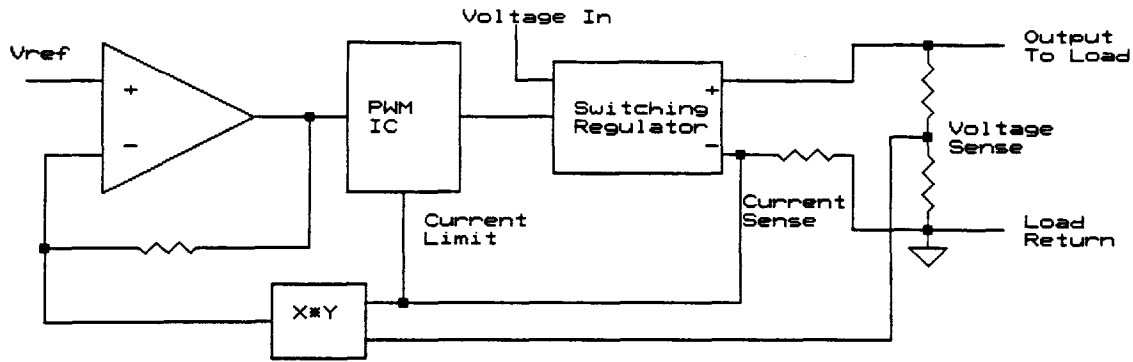

Figure 3-1 Block Diagram, Constant Power Control Loop
2.3 Coupling Procedures (Ref.: Figs. 3-1 and 3-2)
In addition to providing adequate output voltage stabilization against line voltage and load changes, the controller must provide immediate protection against overloads and equipment malfunction. Furthermore, a soft start is incorporated to prevent excessive inrush current due to the initial load capacitance. Figure 3-1 illustrates the principle control loop of the CIC.